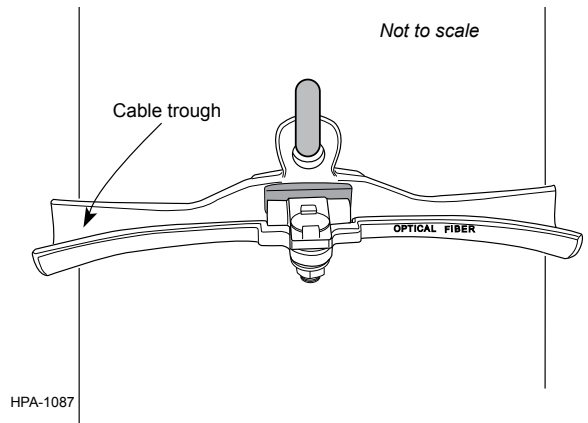

Figure 4
Step 2: Once the clamp is placed on the J-hook, the “Optical Fiber” lettering and the cable trough should be facing outward (Figure 4).